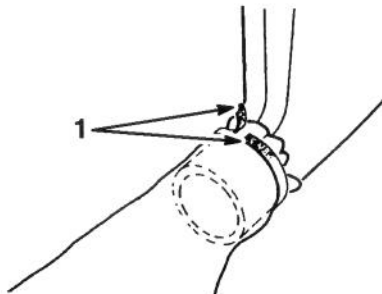

Figure 1
1. Fit opening of bag over outlet on blower. Pull strap tightly to overlap Velcro™ tabs and secure (Fig. 1).